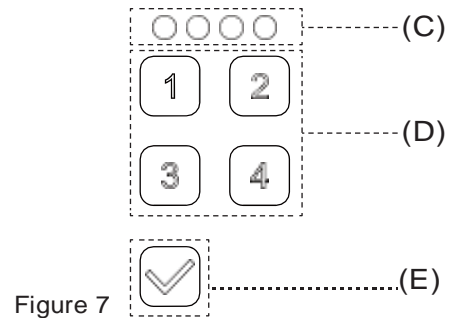

Figure 7
- To unlock, enter your password on the number pad (D), light indicator (C) will light up each time when the number is entered. Press (E) on the pad when password entering is finished. (Figure 7)